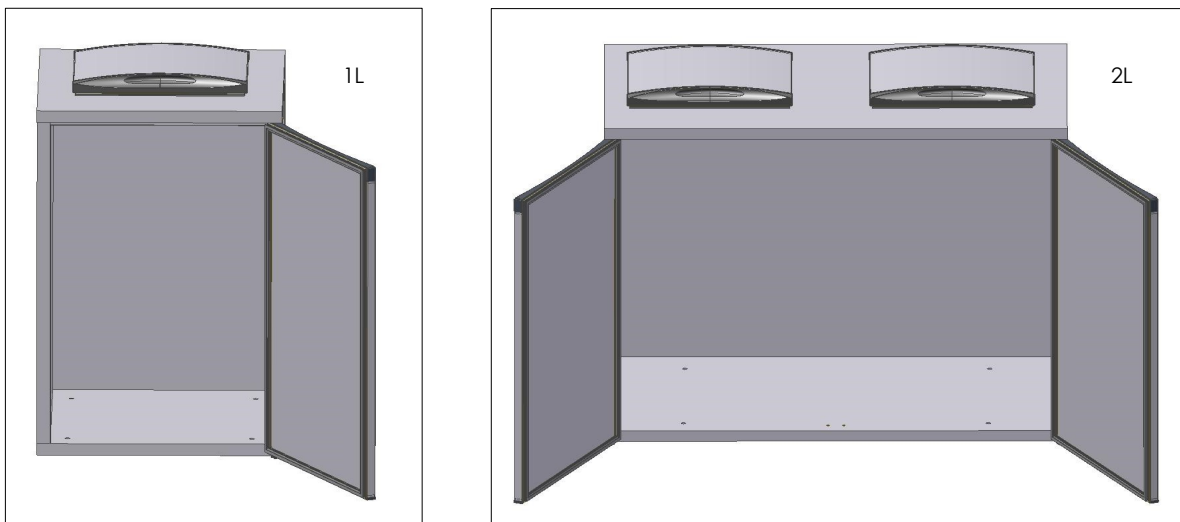

Fig. 9
- Fix the **door (right and left)** to the bottom and to the top (Fig.9);